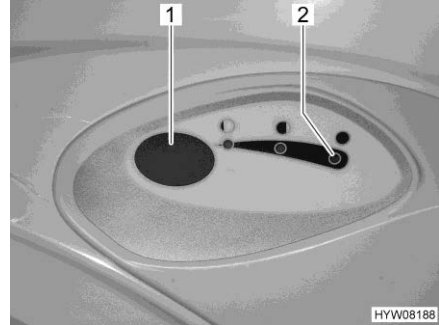

Fig. 277 Flush button/indicator lamp (Thetford toilet)
- For flushing, press the blue flush button (Fig. 277,1).
The indicator lamp (Fig. 277,2) lights up whenever the sewage tank has to be emptied.